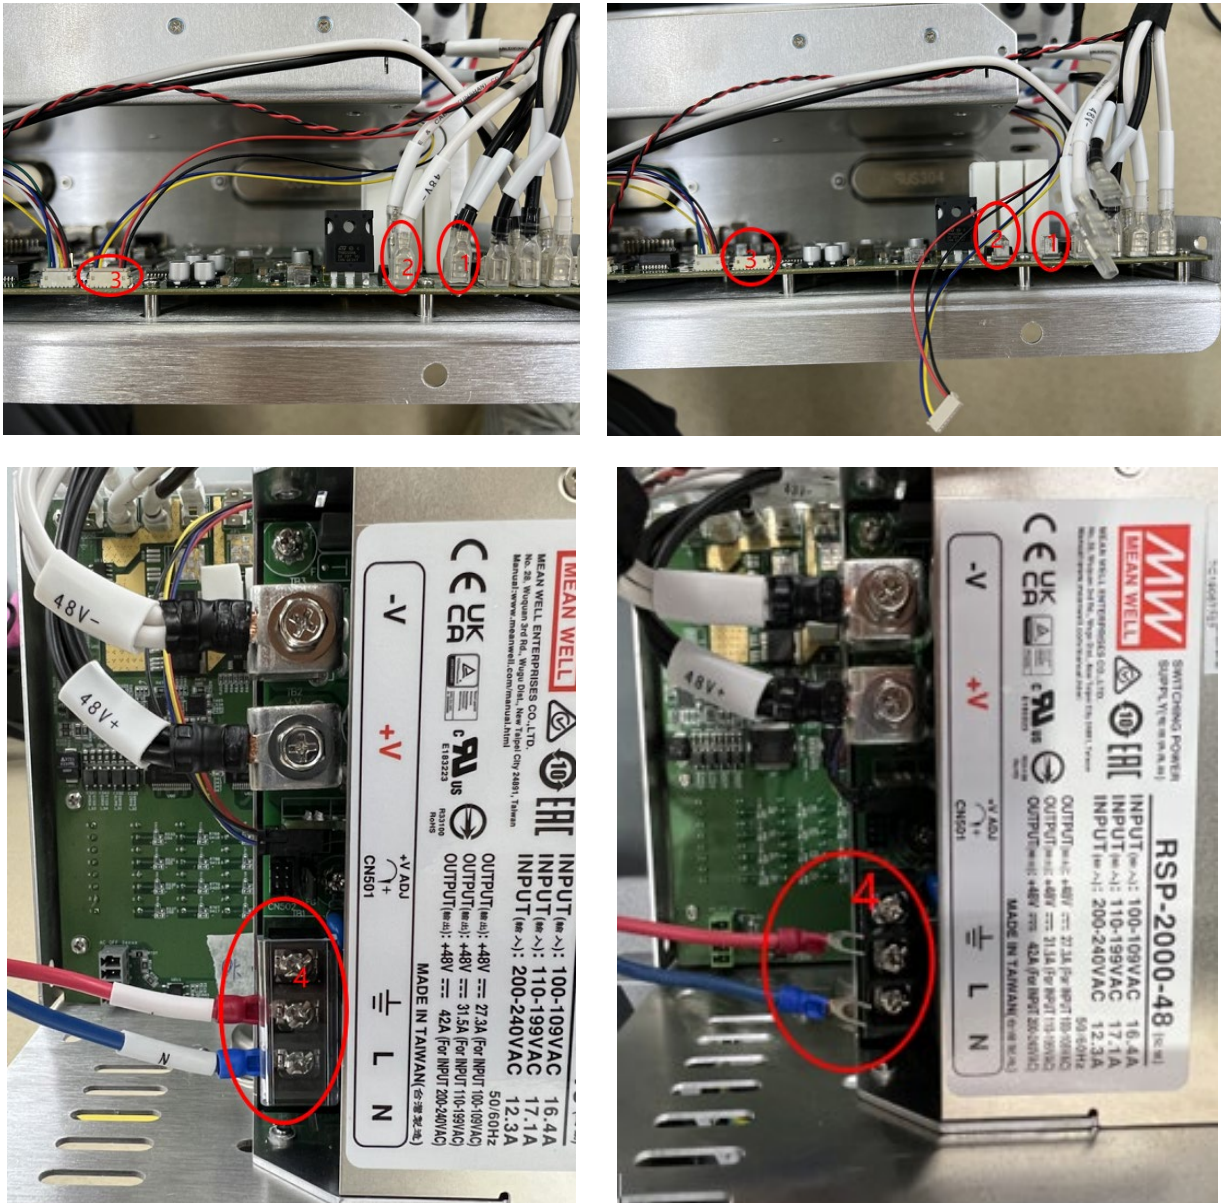

Figure 3-26 The connect position of the power cable on the controller
- Disconnect the connecting cable from the switching power supply to the controller, as shown in Figure 3-26: